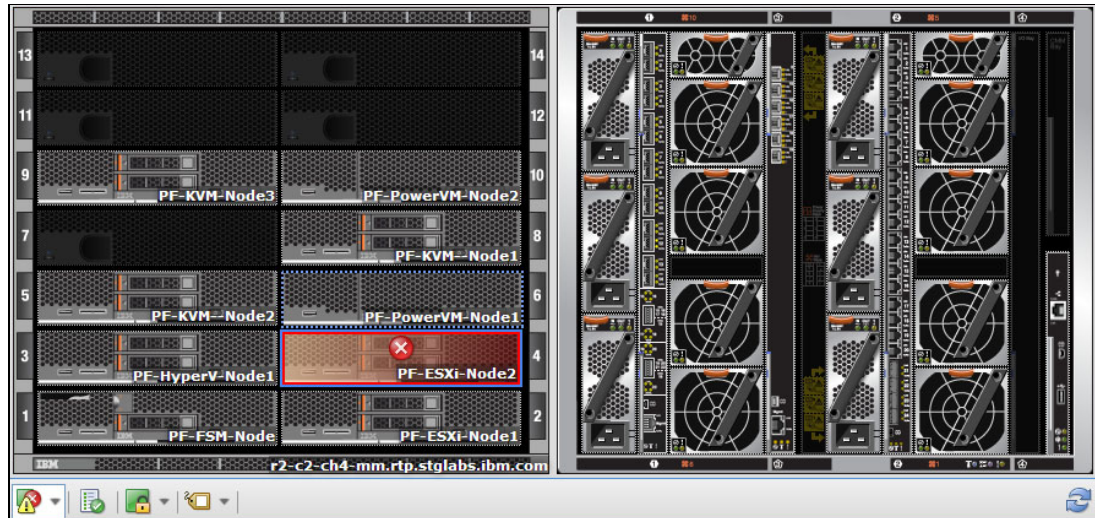

Figure 11-78 Chassis Map showing PF-ESXi-Node2 with a critical error
12. For testing, generate a Critical System error with source PF-ESXi-Node2. The status of the PF-ESXi-Node2 compute node shows Critical on the Chassis Map, as shown in Figure 11-78.